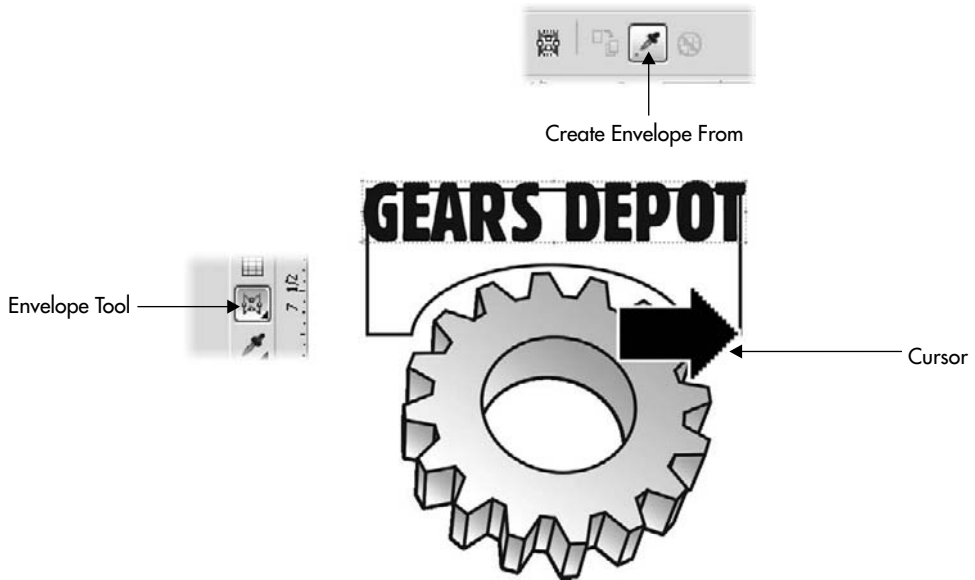

FIGURE 4-9 Envelopes can be copied from existing envelopes, and they can be based on existing shapes.
10. To make the text conform to the shape you created in step 8, click the Create Envelope From button on the Property Bar, the button with the eyedropper icon. Your cursor changes to a really large arrow, and you now click on the shape you created by trimming the rectangle in step 8. See Figure 4-9 as a reference for all the stuff going on with your logo work.